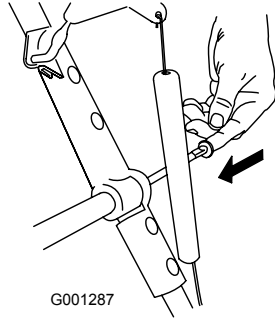

Figure 5
4. Hold the upper handle in place and install the handle rod from the **left side** of the upper handle (Figure 5).